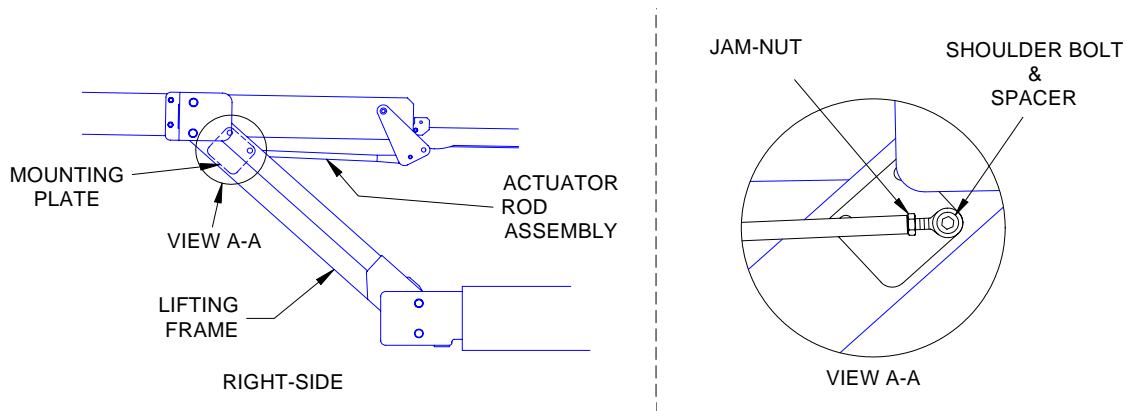

FIGURE 4-11: BRIDGEPLATE ACTUATOR ROD REMOVAL
- c. Raise platform to vehicle floor height using control pendant (UP), and then support.
- e. Refer to **Figure 4-11**. View A-A is from beneath platform. Locate right-side actuator rod assembly (right-hand side of platform, at top of lifting frame). Loosen rod-end jam-nut.